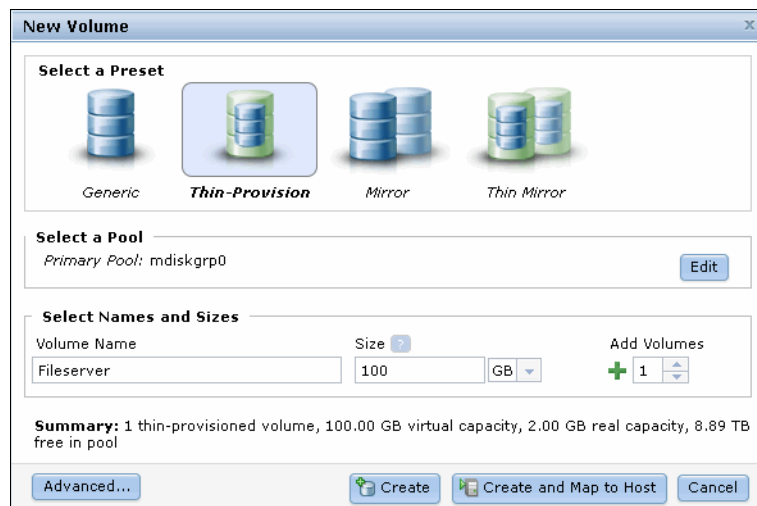

Figure 5-8 Enter the volume name and size
2. Select the pool in which the thin-provisioned volume should be created by clicking it and entering the volume name and size. In our example, we click **mdiskgrp0**. The result is shown in Figure 5-8.
If you do not want to map the volumes now, click **Create** (see Figure 5-8 on page 176) to complete the task. Volumes also can be mapped later, as described in 5.2.2, “Manually mapping a volume to the host” on page 184.